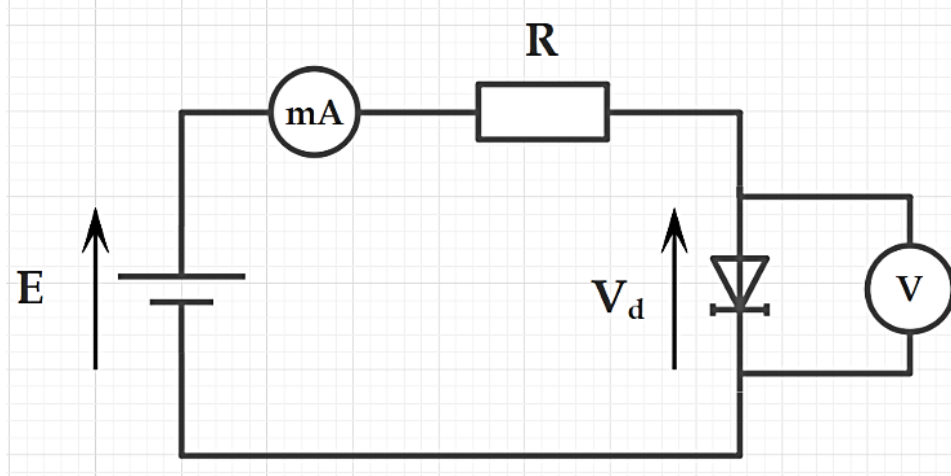

Figure 1.5
- Consider the diagram shown in the Figure 1.5, where R is a resistor with a value of $R = 1\text{k}\Omega$